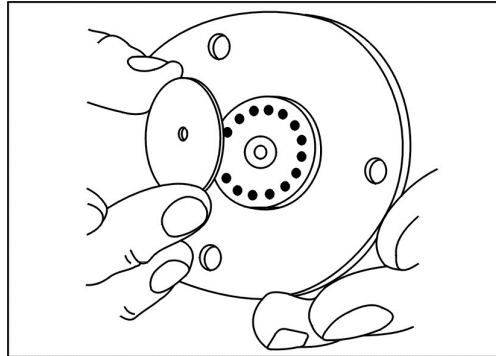

Figure 12 Removing the Impaction Disc
- Remove the Coalescing Tube (unscrew) from the Expansion Manifold and unscrew the Impaction Disc. See Figure 12.